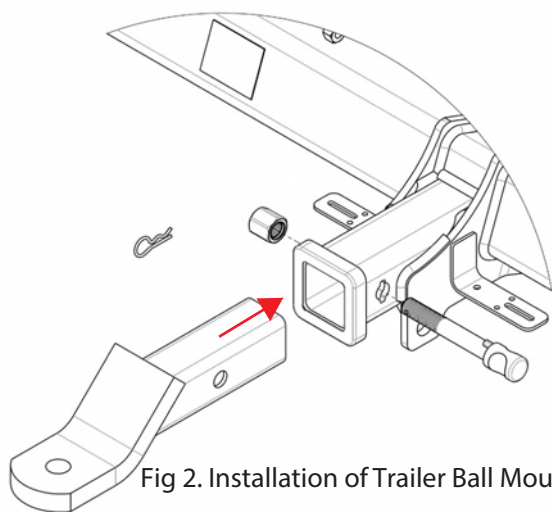

Fig 2. Installation of Trailer Ball Mount
9. Cut bumper behind push out window following moulding as per diagram below see fig 2.
Insert Trailer Ball Mount (TBM) into towbar HITCHBOX, aligning hole in TBM SHANK with hole in HITCHBOX (Fig 2).